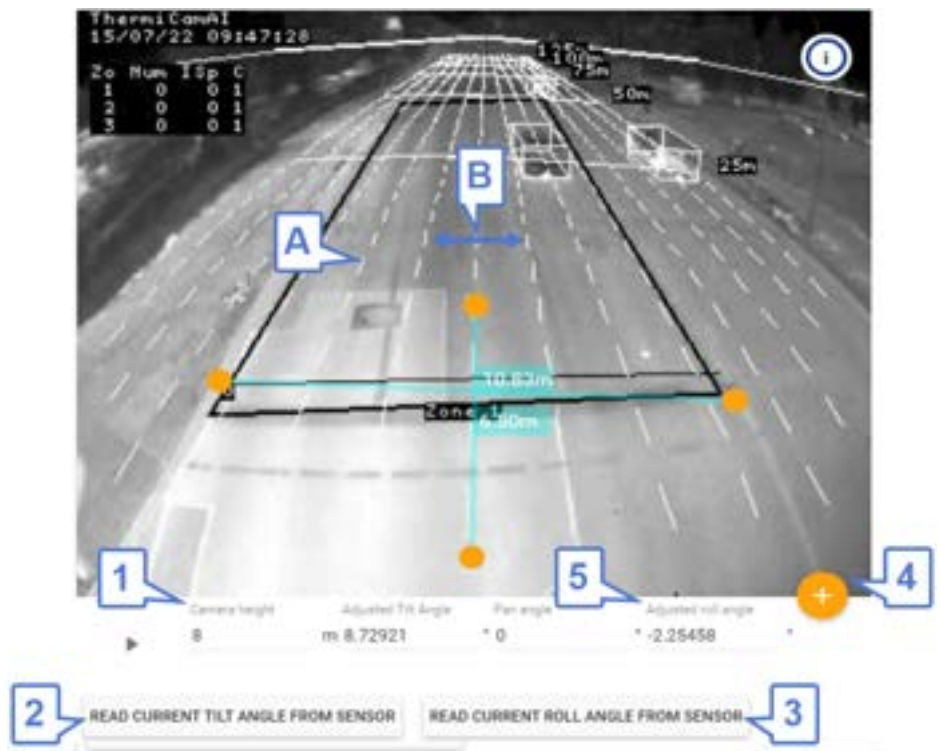

Figure 16.1 Calibration steps
- Each vertical line (A in Figure 16.1 below) is 1m long.
- The horizontal distance between 2 vertical lines is 1,5m, 3 vertical lines (B in Figure 16.1 below), which are 3m wide, roughly correspond to the width of a traffic lane.